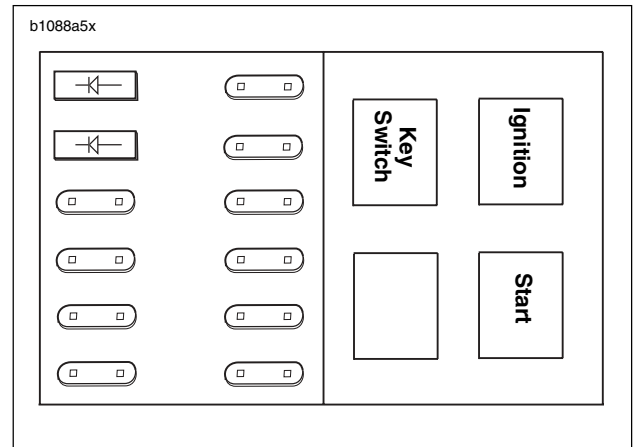

Figure 5-5. Relay Block (top view)
1. See Figure 5-5. Locate starter relay. The relay is attached to the relay block under the seat.